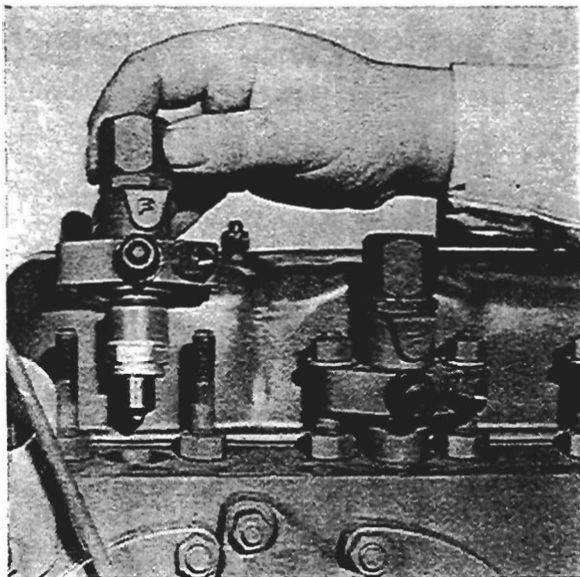

Fig. F1
11. Remove atomisers (see figs. F1 or F2).